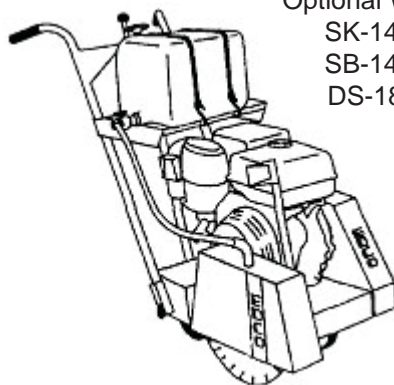

Figure 6
- **BEFORE STARTING THE ENGINE OR MOTOR:** Raise the saw blade clear of the working surface. The blade is raised using the depth control handwheel knob mounted on the upper handle assembly (*Figure 6*). Lift the knob to unlock and turn the handwheel clockwise until the blade is clearly off the ground.